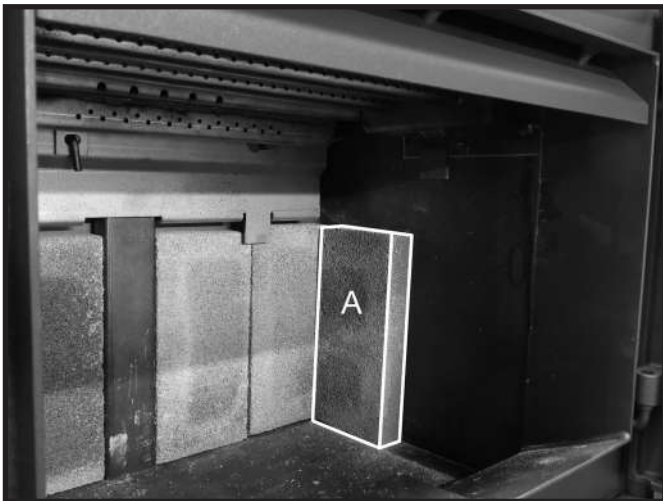

Figure 14: 1st side wall brick in place.
3. For the side walls: Stand an "A" firebrick against the side wall and up against the rear wall firebrick (Figure 14). Stand another "A" brick beside the first, one followed by a narrow "B" firebrick (Figure 14).